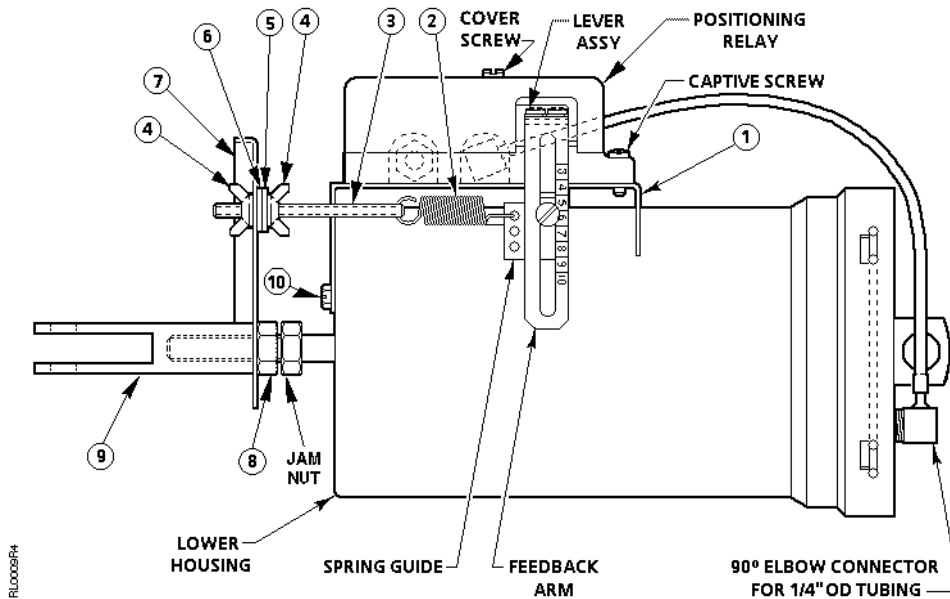

Figure 2. Positioning Relay Mounting Kit 147-314 on the No. 4 Damper Actuator.
1. Attach the mounting bracket (*Figure 2, Item 1*) to the lower housing of the actuator with the slotted hex screw (10).
4. Thread the hex nut (8) onto the actuator shaft within 1/16-inch (1.5 mm) from the jam nut on the shaft of the actuator. Put spring arm (7) against the nut (8) and thread the clevis (9) onto the shaft as shown in *Figure 2*.